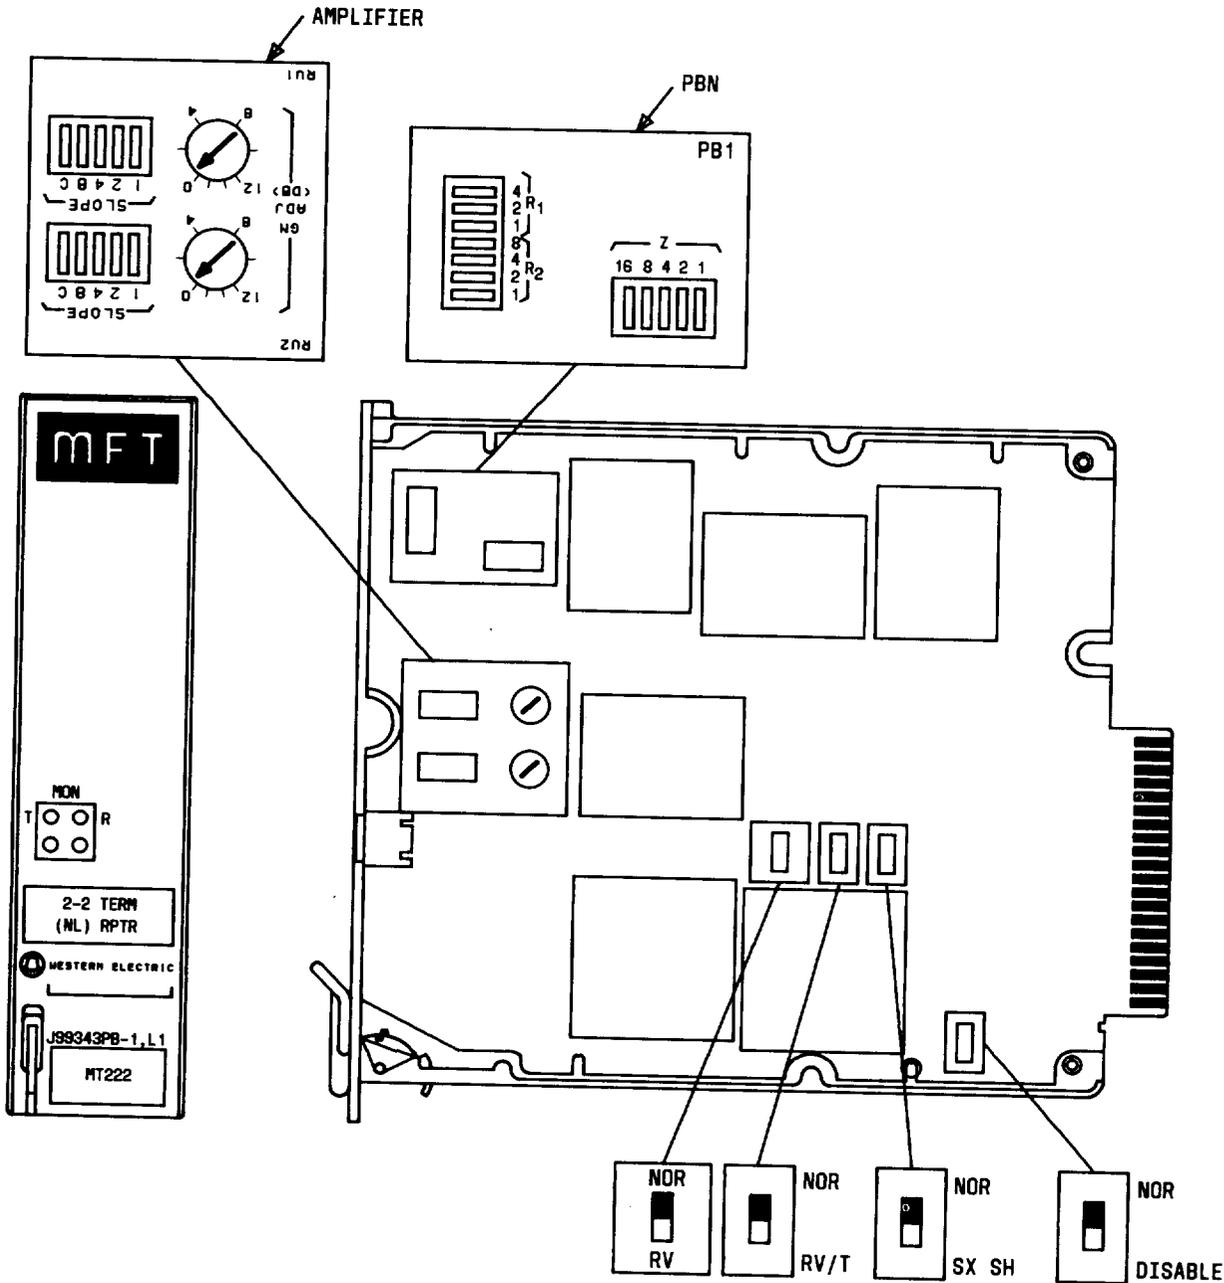
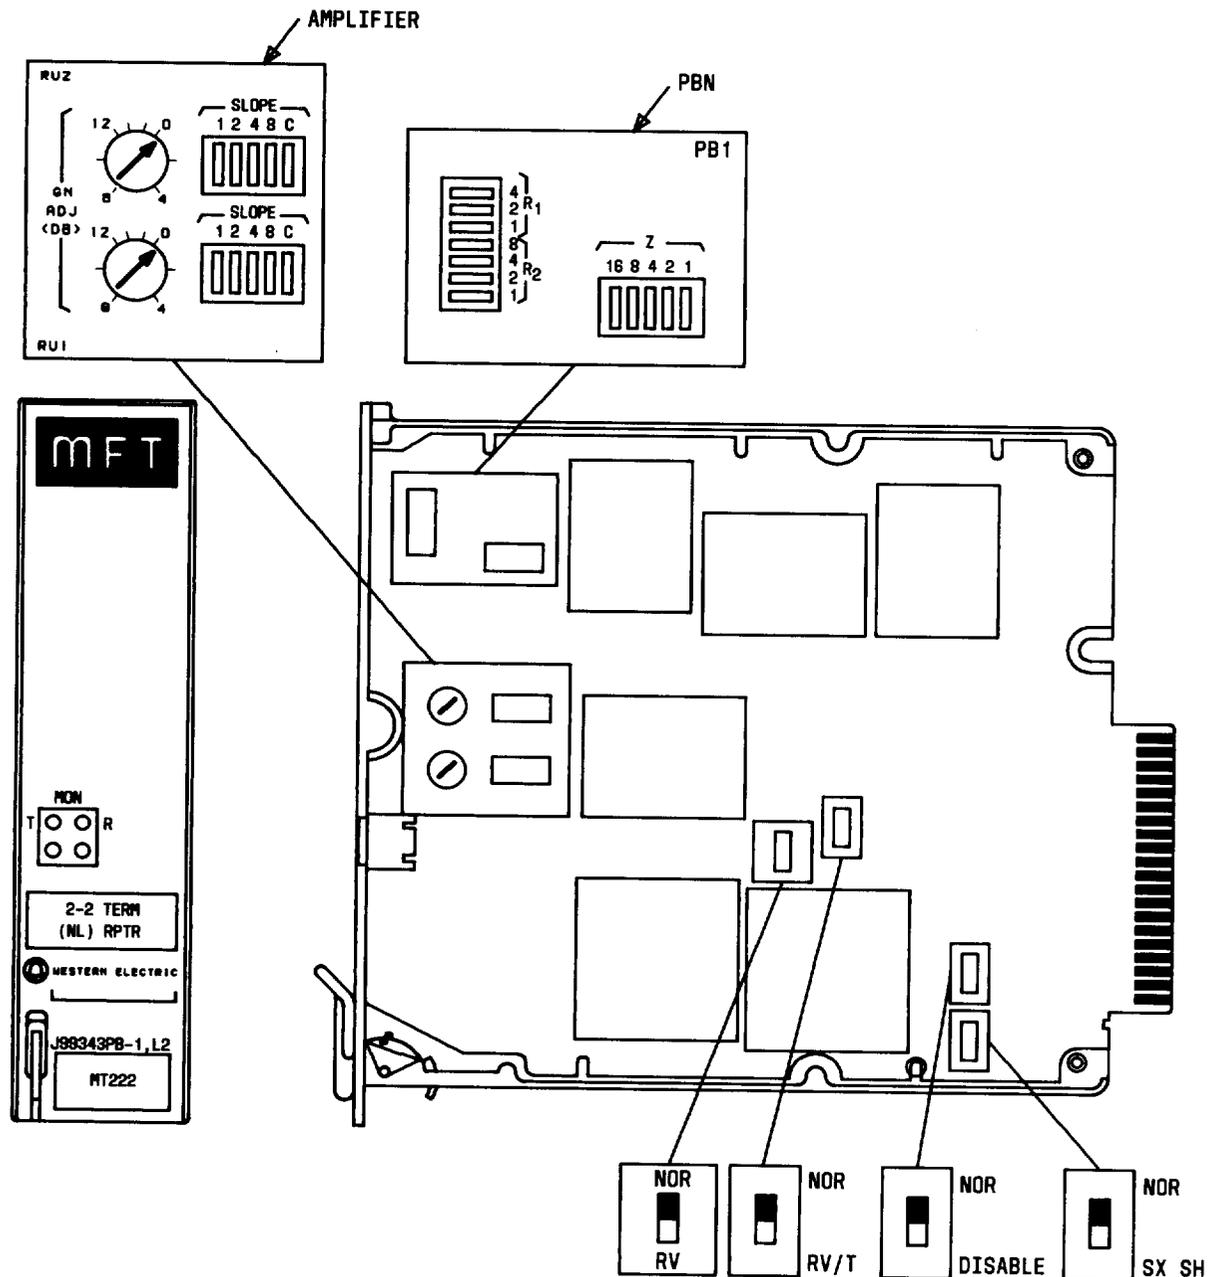
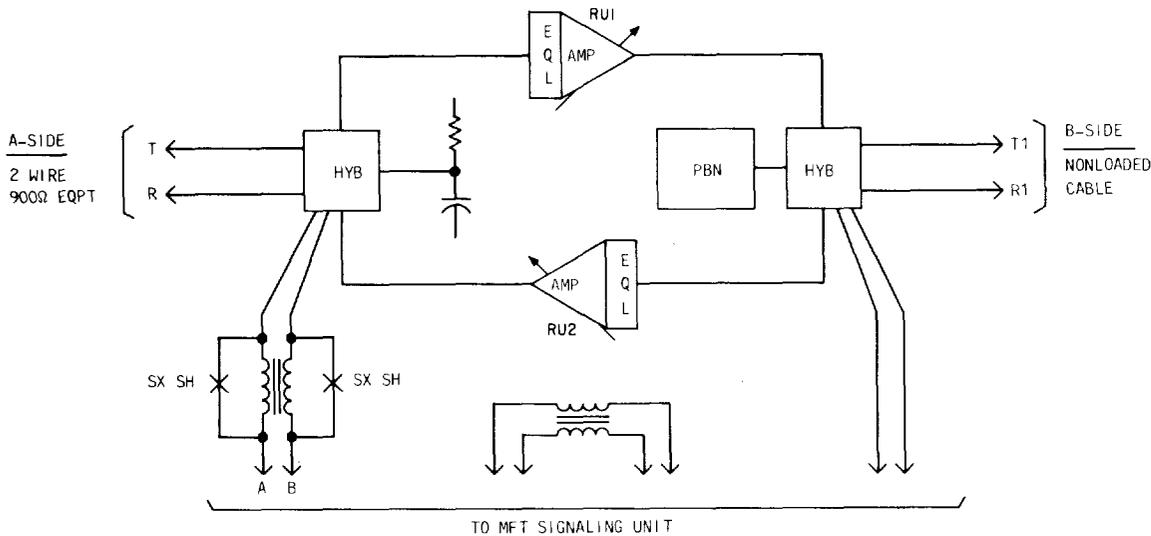

Fig. 1—Component Layout, J99343PB, L1
Fig. 2—Component Layout, J99343PB, L2
Fig. 3—Block Diagram, F99343PB, L1, L2
2.01 The J99343PB, L1 is shown in Fig. 1 and the J99343PB, L2 is shown in Fig. 2. They provide gain and equalization on 2-wire circuits between terminal equipment and nonloaded facilities. Figure 3 shows a block diagram of these units.
2.07 In the following paragraphs, the rocker-type switches for a particular function are operated when depressed toward the respective designation. The sum of the values of the switches operated is the setting for that function. The unit controls are illustrated in Fig. 1 and 2.